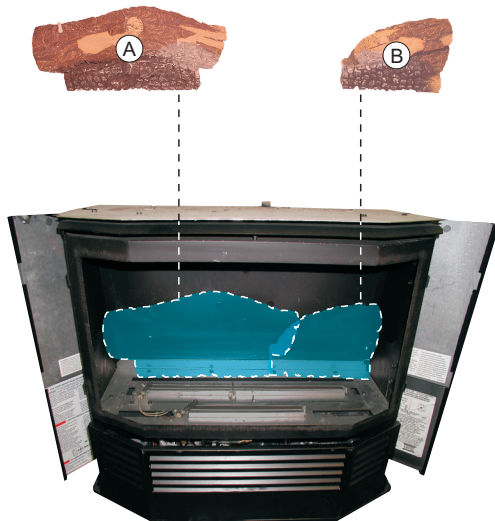

Figure 58
4. Place the Rear Right Log (B) and the Rear Left Log (A) behind the rear burner all the way against the back of the firebox. See Figure 58.